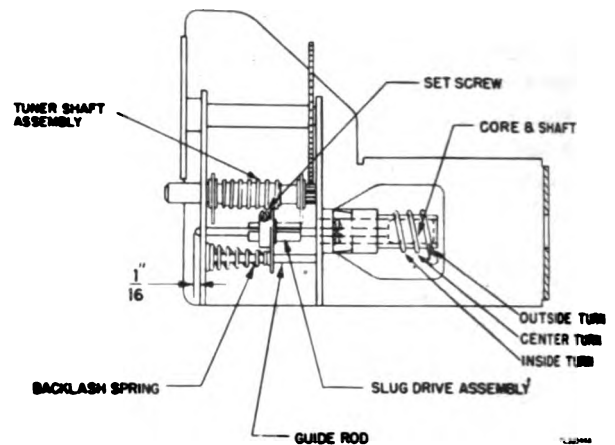

Figure 79. Receiver r-f tuning section, side view.
(2) Loosen the setscrew on the slug drive assembly and adjust the tuning cores until their shafts extend  $\frac{1}{16}$  inch from the tuner front plate (fig. 79). To do this, remove the tuner from the chassis.
If the osc. dial fails to check against the calibration point for 156 mc, adjust the outside turn and the center turn (fig. 79) on the osc. coil until the correct dial setting is obtained. (The inside turn is next to the front panel.) The spacing should be adjusted by bending the inside turn of the coil away from or toward the center turn.
b. After the tuner has been removed, take out the cores. Turn the tuning screw clockwise until the dial reads zero. Measure the distance the core shaft protrudes through the front panel. This distance should be  $\frac{1}{16}$  inch (fig. 79). When the core is replaced, set it to the same distance. Insert a No. 6 Allen wrench in the setscrew holding the
core shaft (fig. 79). Turn the setscrew counter clockwise until the core shaft slides freely.